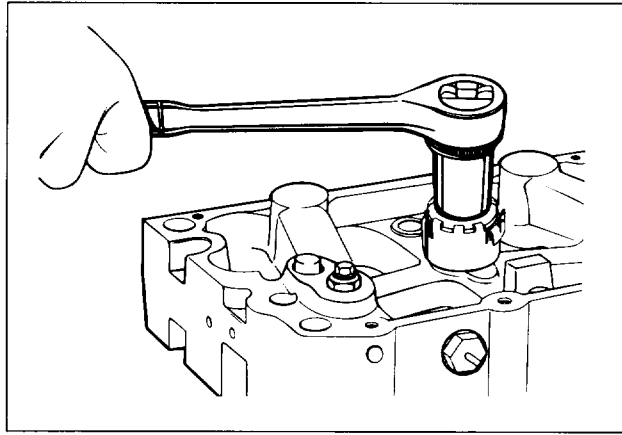

FIG. 17
1. Disconnect solenoid harness. Using 3/4" socket, unscrew solenoid valve (Fig. 17).